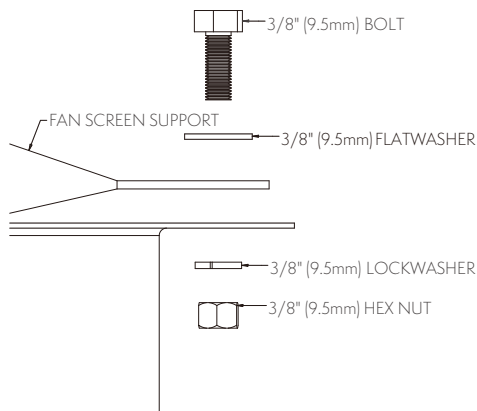

Figure 25 – Fan Screen Support Attachment Hardware
3. Align the (8) holes on each fan screen support assembly with the pre-drilled 3/8" (10mm) holes in each fan cylinder. Secure the fan screen supports to the cylinder with 3/8" (10mm) hardware as shown in Figure 25.